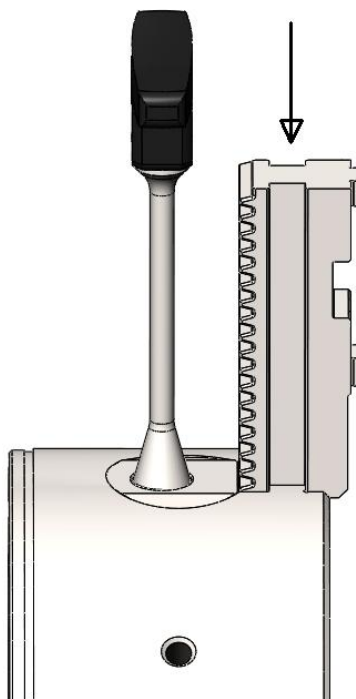

Fig. 15. Fastening the jaw
- insert the jaw into the guides and push it firmly in the direction of the chuck passage, until the moment of engagement with the base jaw, set the jaw in the desired position, fig. 15